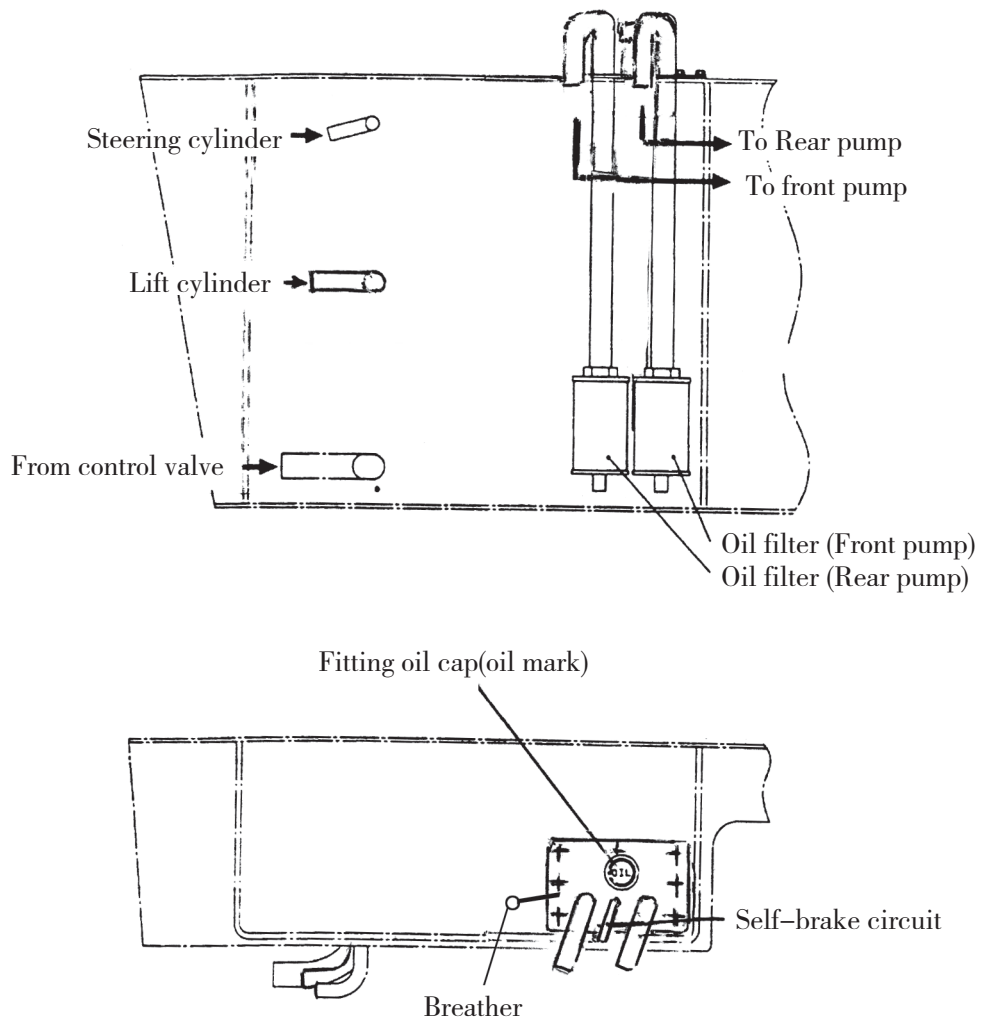

Fig.7.11 Oil tank
7.8 Oil tank (refer to the fig. 7.11)